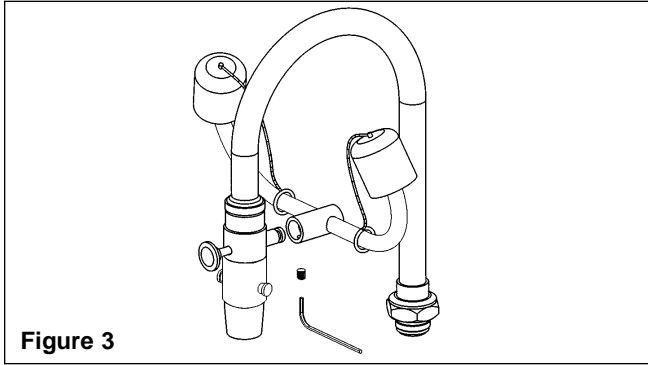

Figure 3
1. Remove the Allen screw from the Eyewash Yoke Assembly using the enclosed small Allen wrench (see Figure 3).